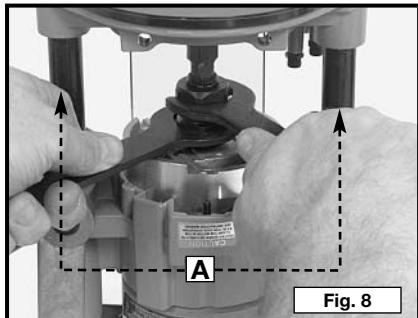

Fig. 8
1. Stand router upside down on its motor cap (Fig. 8).
3. Place one wrench on flats on chuck and one wrench on collet nut (Fig. 8). Tighten firmly.